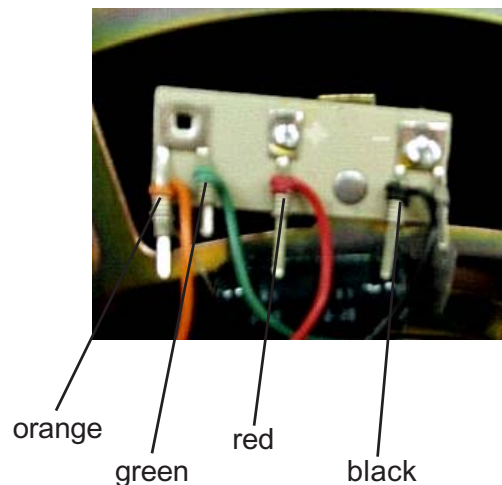

Figure 1. Woofer Wiring Configuration
4.1 Strip the wires and connect the wires as shown in figure 1. The red wire to the single center terminal. The black wire to the right side double terminal (looking at the woofer magnet side down). The orange and green wires to the left double terminal. The capacitor is connected to the far left and right terminals.